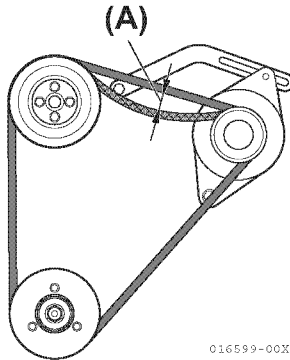

Figure 7-37
3. Check belt tension by pressing on the belt (**Figure 7-37, (A)**). Allowable belt deflection is shown below. If the belt is loose, it must be replaced.